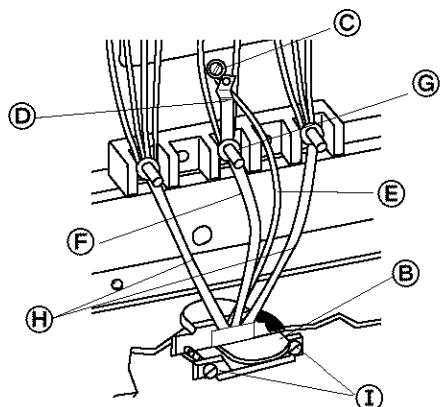

Figure 2
8. Connect the green ground wire (E) from power supply cord to the range using the ground-link screw. **The ground wire must be attached first and must not contact any other terminal.** See Figure 2.
9. Connect the neutral wire (center wire) (F) to the center, silver-colored terminal screw (G) on the terminal block using the brass terminal nuts that are attached to the inside of the terminal block cover. See Figure 2.
10. Connect the other two wires (H) to the outer terminals on the terminal block. See Figure 2.
12. Tighten the strain relief screws (I).